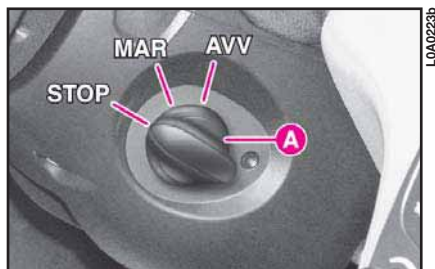

fig. 22
- To turn on the instrument panel, turn knob **A** (**fig. 22**) to position **MAR**.
To start engine, turn the knob **A** (**fig. 22**) to position **AVV**, and release as soon as the engine is started.
The car is fitted with a switch controlled by knob **A** (**fig. 22**), enabling to actuate **STOP**, **MAR** and **AVV** starter motor switch functions.
cessive rotation of knob **A** (fig. 22) to the **STOP** position, and it will not be possible to restart the car until a valid CID device is identified inside the passenger compartment.